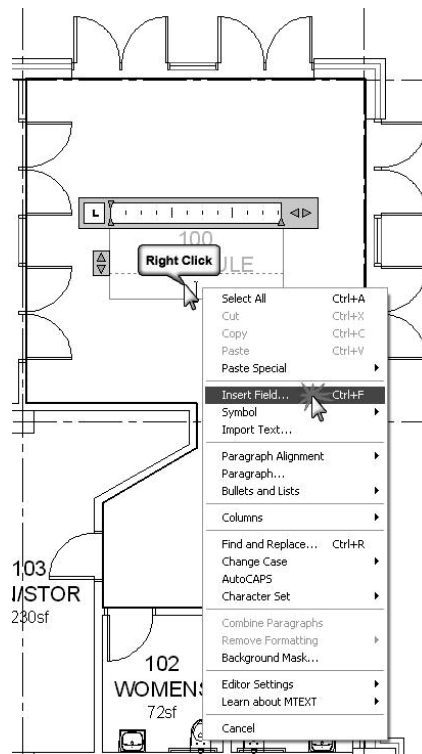

FIGURE 4-4.4 Adding a field
12. Select **Insert field...** (Figure 4-4.4).